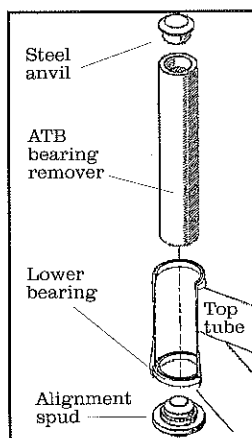

Fig. 30
7. Insert the large end of the **alignment spud** into the lower bearing (Fig. 30).